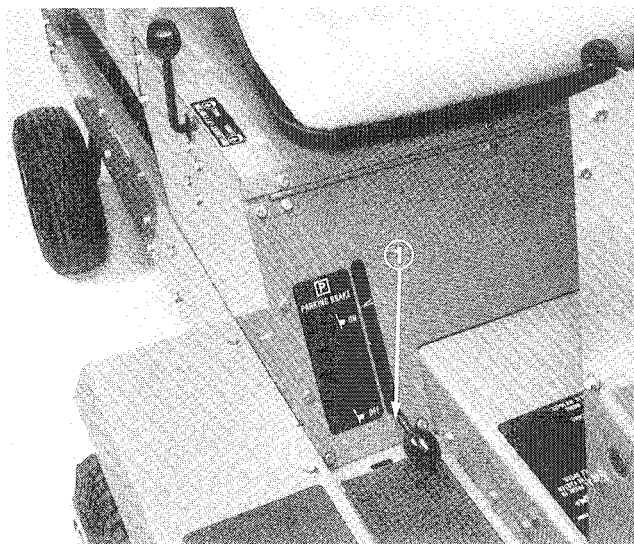

Figure 10
**Parking Brake (Fig. 10)** — Whenever the engine is shut off, the parking brake must be engaged to prevent accidental movement of the machine. To engage the parking brake, pull up on lever. Parking brake is equipped with an interlock, which shuts off engine when PTO switch or traction pedal are engaged with brake on.